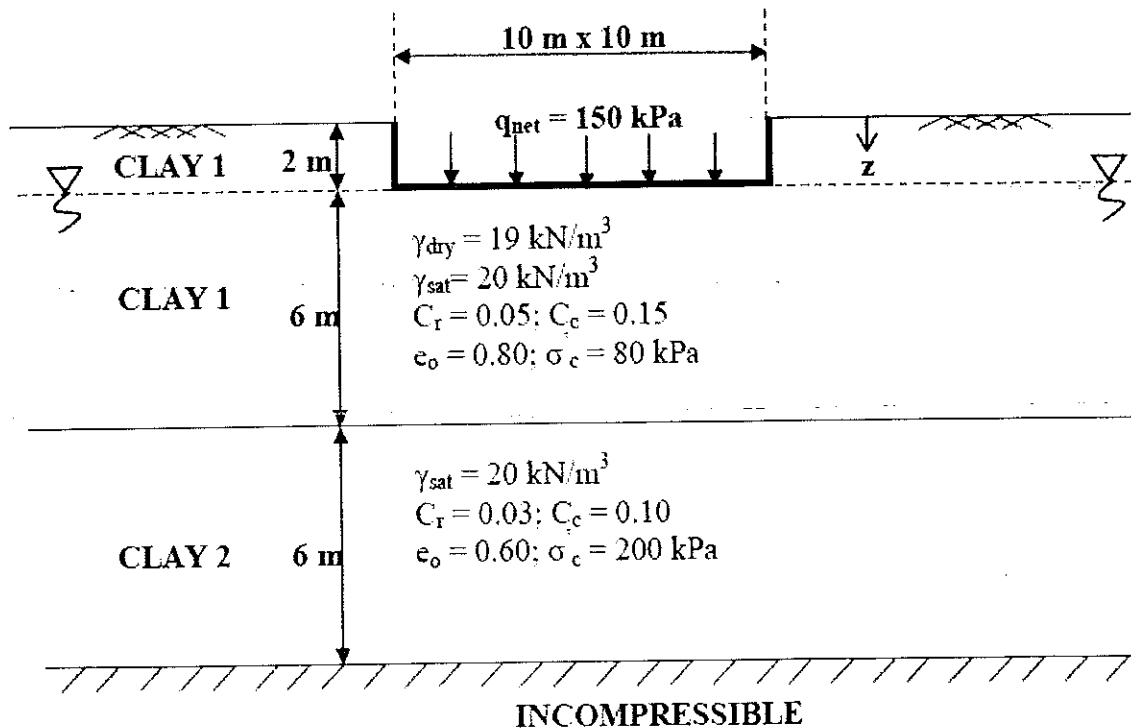

Figure Q6
- (a). A foundation constructed as shown in Figure Q6 exerts a net increase in loading of 150 kN/m^2 . Compute the consolidation settlement caused by the construction of the foundation. Assume a 2V:1H load spread for the foundation load. Geotechnical properties of the two different types of clay, i.e. Clay 1 and Clay 2, are shown in Figure Q6 (σ'_c is pre-consolidation pressure). Ground water table is at the base of the footing. (16 Marks)